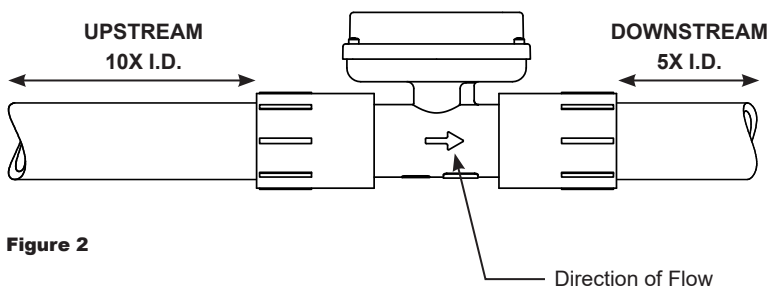

Figure 2
1. Plan to install turbine with a minimum straight pipe length as follows (see Figure 2):